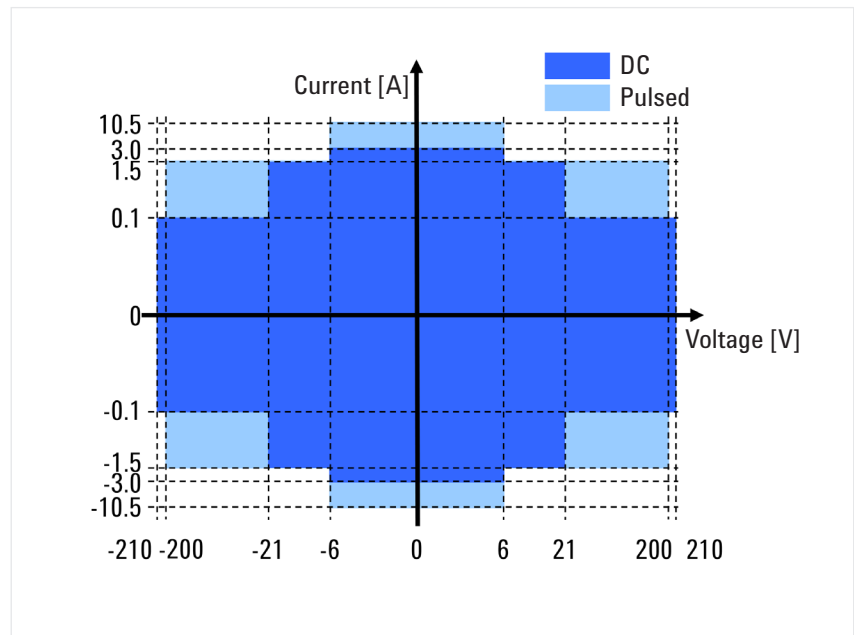

Figure 2. Broad bipolar and current ranges (4-quadrant operation)
The B2961A/B2962A is a bipolar source that supports 4-quadrant operation, so the voltage and current polarities can be either positive or negative. It can source currents from 10 fA to 3 A (DC) or 10.5 A (pulsed), and voltages from 100 nV to 210 V (please see Figure 2). In addition to the basic sourcing capabilities described above, the B2961A/B2962A also has advanced features that permit more complex testing and evaluation. These include arbitrary waveform generation, programmable output resistance function and a time domain voltage/current waveform viewer. Therefore, the B2961A/B2962A satisfies all of the requirements for precise low resistance measurement when used in combination with the Keysight 34420A.